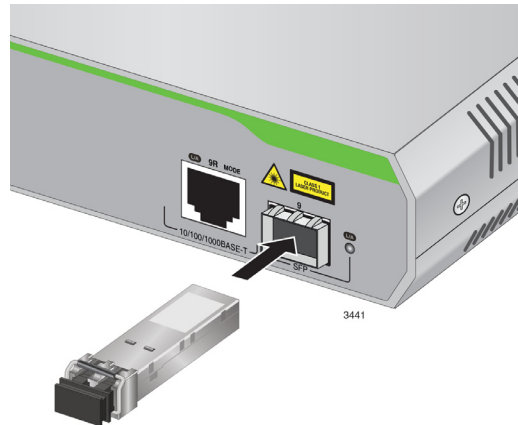

Figure 15. Inserting the SFP
4. Slide the transceiver into the SFP slot until it clicks into place. See Figure 15.